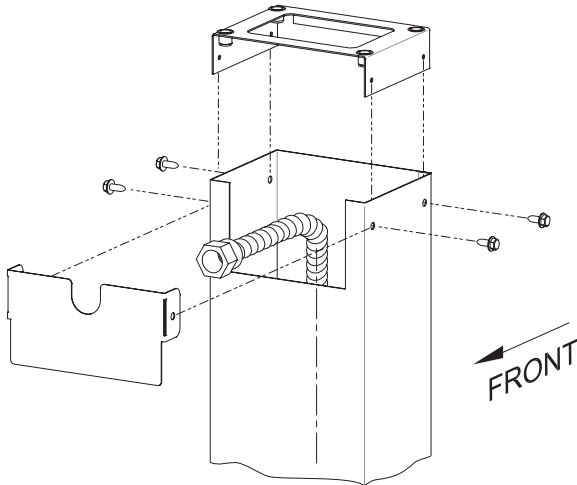

Figure 3
3. **For R3 Series Grill Heads:** Slide the Post Cover Plate onto the front of the post. Slide the Upper Bracket into the post. Secure the Post Cover Plate and Upper Bracket to the top of the square post using four #10 – ½ screws. See Figure 3.
For Grill Heads other than R3 Series: Slide the Upper Bracket into the post. Secure the Upper bracket to the top of the square post using four #10 – ½ screws. See Figure 3.
4. Place the grill bottom on top of the post and secure the grill bottom to the post by placing four ¼-20 x ¾ Hexhead screw in the threaded inserts that are in the upper bracket. See Figure 3. Note: Grill top comes assembled with to the bottom. For ease of assembly, remove grill top.